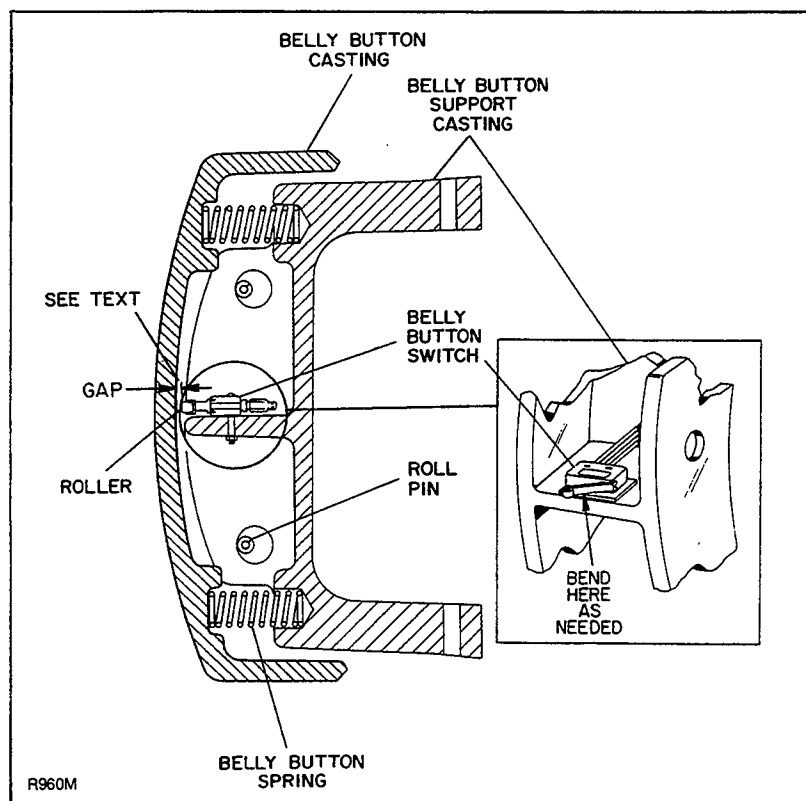

Figure 3-11. Belly-Button Safety Switch
3-20. Belly-Button Switch Adjustment. (Figures 3-11 and 3-12)
3. Bend actuator lever of belly-button switch to adjust gap between roller and belly-button casting as required (see figure 3-11).